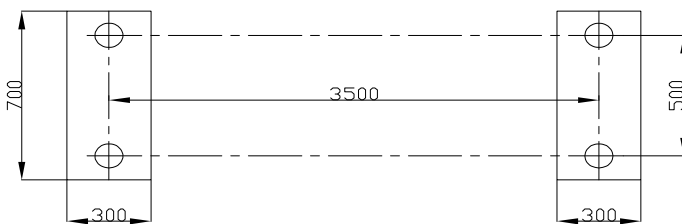

FIG.2
1. This machine should be installed on the proper foundation (see installation foundation fig.2). Depth of the foundation should be no less than 500mm. when making preliminary installation onto the foundation; the machine's level should be roughly calibrated. Cement is then poured in and the foundation bolts secured (foundation bolts to be provided for by user themselves). After the cement has hardened, the level can be precisely calibrated and the nuts are tightened. While adding the cement, an  $\text{Ø}8$  and 1.5m-long iron rod should be sunk into the foundation as grounding for the machine, machine must be earthed before connecting it to the mains supply.